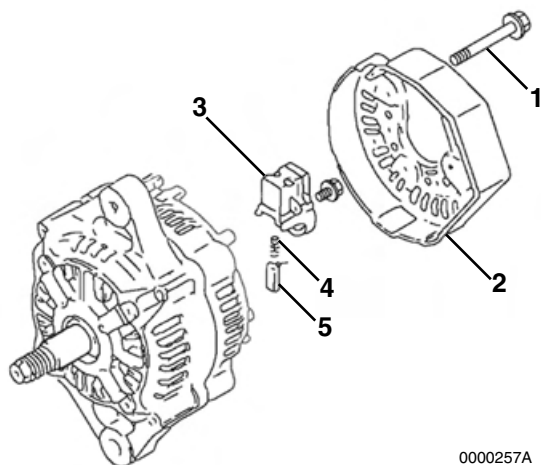

Figure 12-6
2. Remove the three bolts (**Figure 12-6, (1)**) retaining the rear cover (**Figure 12-6, (2)**) to the rear frame assembly.
3. Remove the brush holder (**Figure 12-6, (3)**). Remove the brush springs (**Figure 12-6, (4)**) and brushes (**Figure 12-6, (5)**).